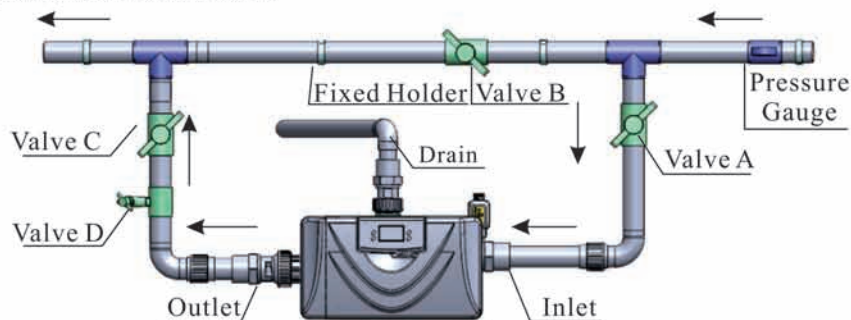

Figure 1-3
③ Pipeline connection
a. As Figure 1-3 shows, install a pressure gauge in water inlet.
b. Install valves A.B.C.D in inlet, outlet and pipeline as showed in Figure 1-3. Valve D is a sampling valve.